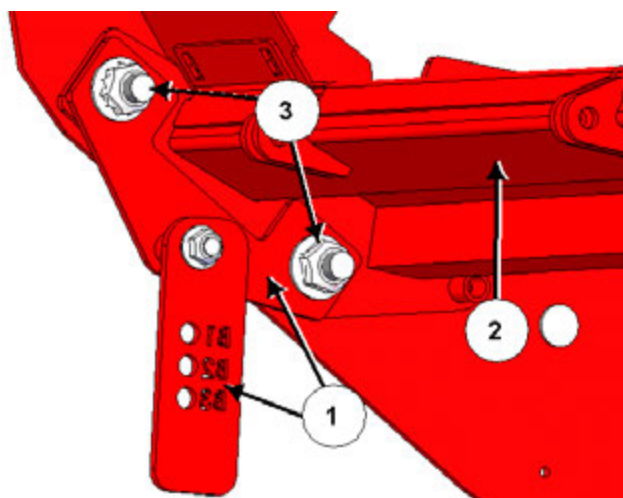

Figure 21: Fasten lower sheet and hanger deflector to front tub wall
- c. If there is no feed chopper installed, re-install the hanger deflector with hanger tab (1) along with the opposite end of the lower sheet (2). Fasten all components using the previously removed hardware (3); see Figure 21.